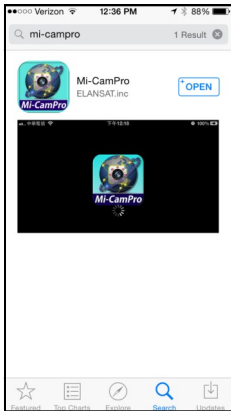
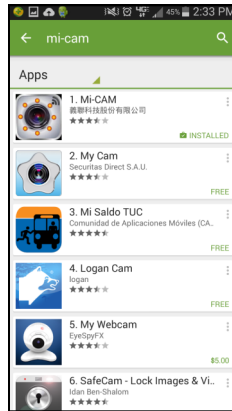

Figure 1
Figure 2
3. Search for and download “Mi-Cam Pro” if using iOS (Figure 1), or “Mi-Cam” if using Android (Figure 2).